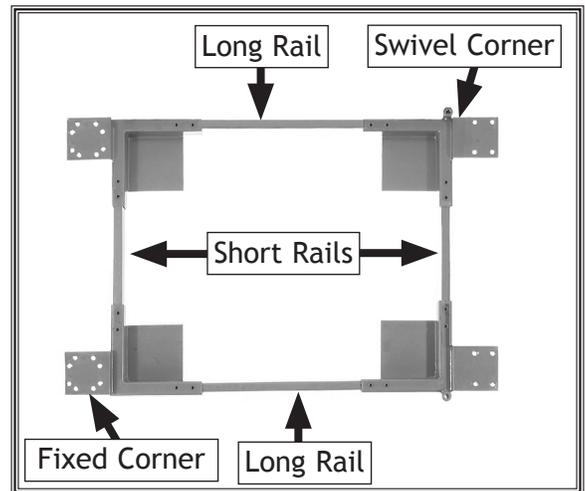

Figure 9. Side rails inserted into corner brackets (casters removed for clarity).
5. Slide each side rail inside a corner bracket, making sure the two long rails are parallel with one another and the two short rails are also parallel, as shown in **Figure 9**.